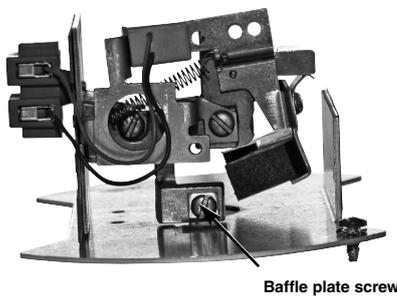

Figure 5
4. Remove small round head screw securing lower switch mechanism to baffle plate, refer to Figure 5.